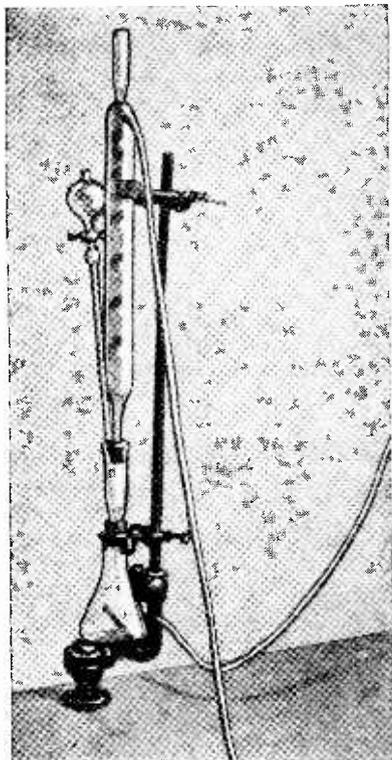

Fig. 1—Sodium benzenesulphonate is prepared by adding benzene, drop by drop, to fuming sulphuric acid in the flask, which is connected to a reflux condenser.
**P**REPARATION of sodium benzenesulphonate: In a 250 cc. flask place 50 grams of fuming sulphuric acid, connect the flask to a condenser as shown in Fig. 1 and add, drop by drop, 20 grams of benzene. During the addition of the benzene, which should take about 15 minutes, the flask must be shaken vigorously every minute or two. If all the benzene does not dissolve after continuous shaking for a few minutes, heat the mixture on a water bath until solution is complete.